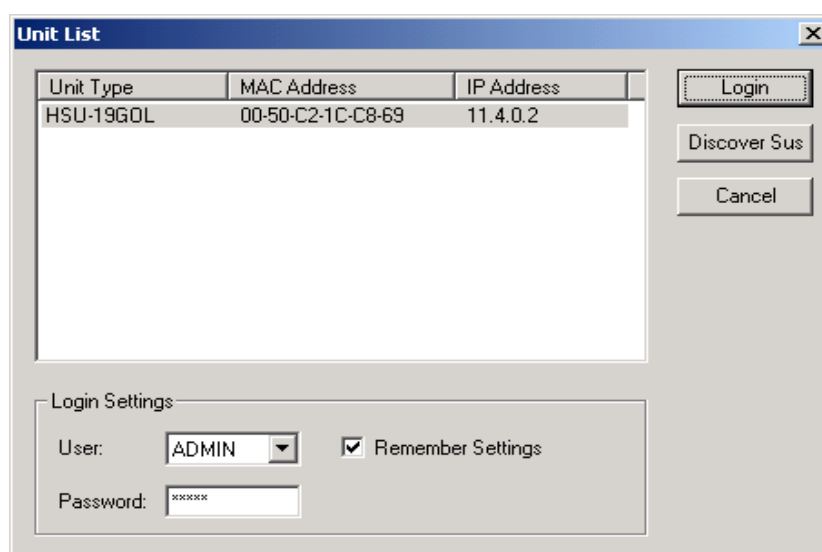

Figure 10-3: Discover Window
- If the IP address of the unit is unknown, press the icon "S" to start a new session. This command discovers (with a broadcast command) the units on the network. The application waits (discover time) for replies and display a list of the units replied (see Figure 10-3).